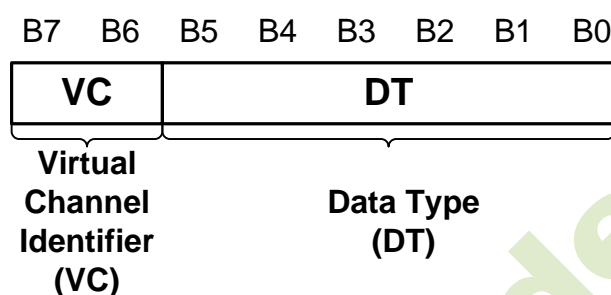

Figure. 7.32 Data Identifier Byte
The first byte of any packet is the DI (Data Identifier) byte. Figure. 7.32 shows the composition of the Data Identifier (DI) byte. DI[7:6]: These two bits identify the data as directed to one of four virtual channels. DI[5:0]: These six bits specify the Data Type.